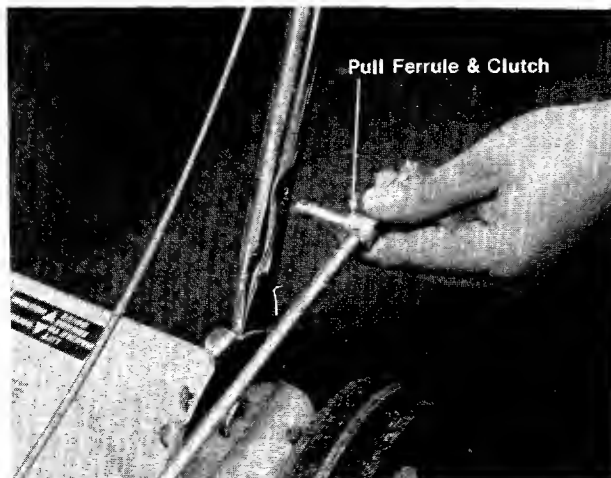

FIGURE 5.
2. Pull the clutch rod and ferrule out of the lower handle. See figure 5.